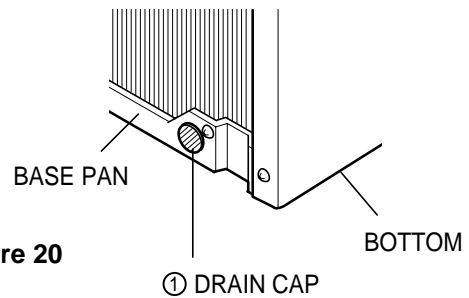

Figure 20
If the air conditioner is used in a high humidity zone, exchange the ① DRAIN CAP for the ② DRAIN PIPE.(See Figure 20, Figure 21)